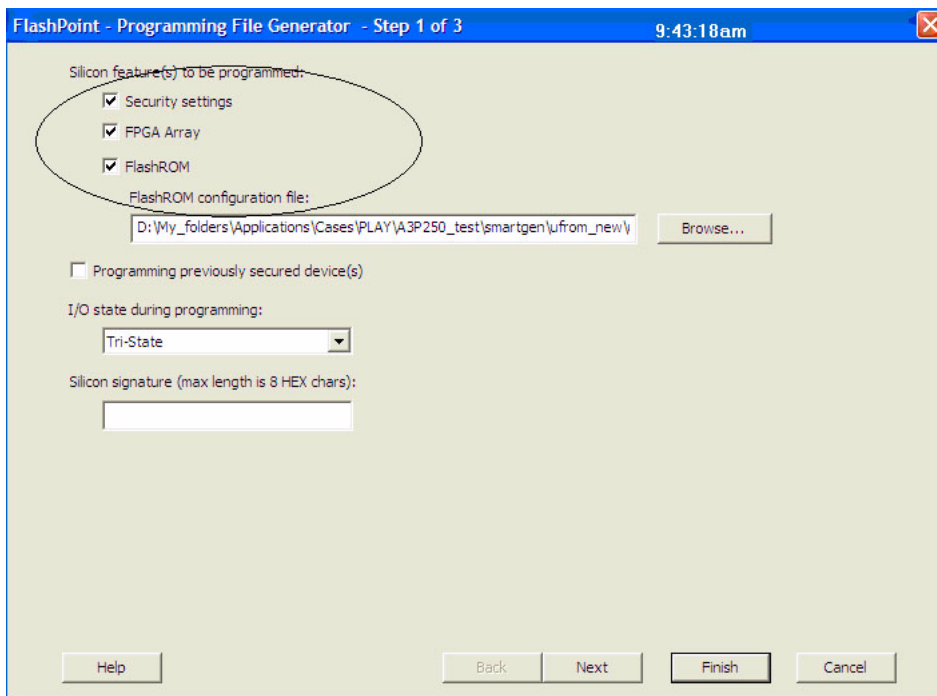
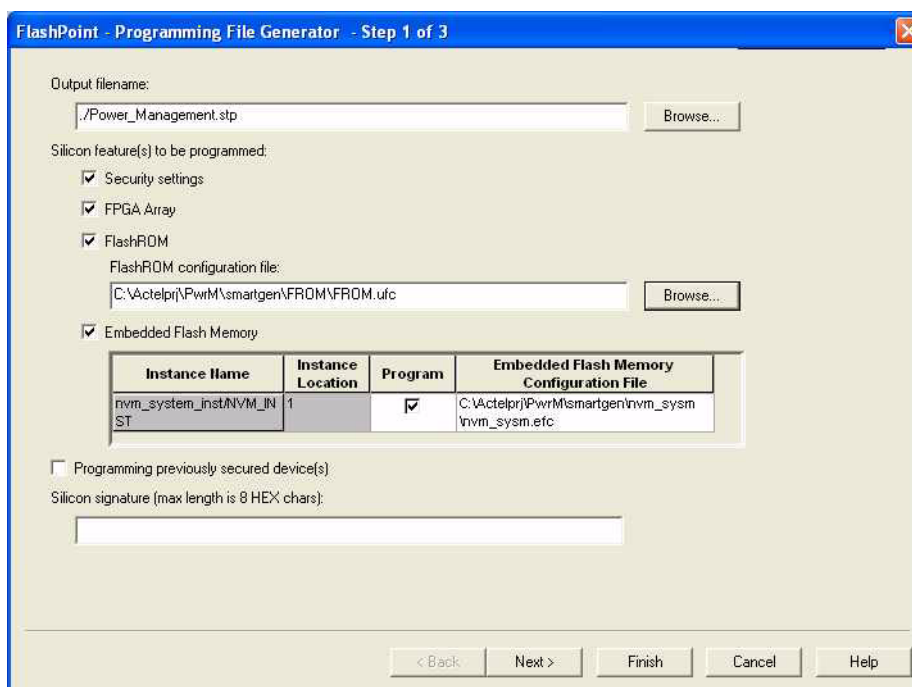
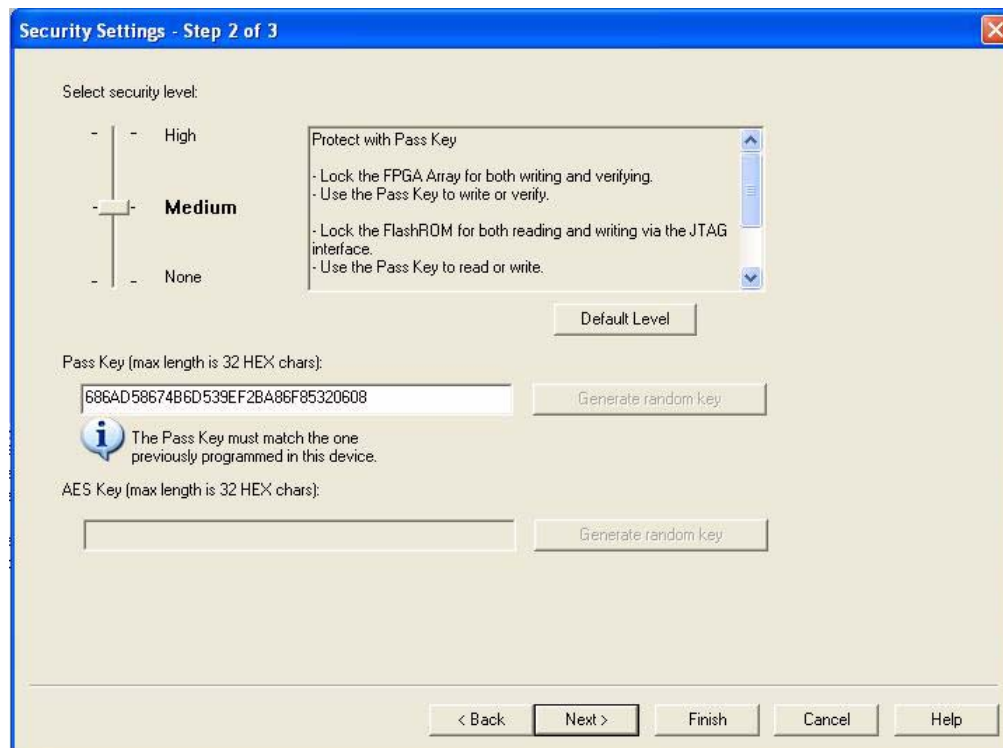

Figure 15-10 • All Silicon Features Selected for IGLOO and ProASIC3 Devices
Figure 15-11 • All Silicon Features Selected for Fusion
Figure 15-19 • FlashLock Pass Key, Previously Programmed Devices
1. Select the **Silicon features to be programmed** (Security Settings, FPGA Array, FlashROM, Flash Memory Blocks), as shown in Figure 15-10 on page 338 and Figure 15-11 on page 338. Click **Next**.
Figure 15-10 on page 338 and Figure 15-11 on page 338 show the option **Programming previously secured device(s)**, which the user should select before proceeding. Upon going to the next step, the user will be notified that the same FlashLock Pass Key needs to be entered, as shown in Figure 15-19 on page 346.
It is important to note that when the security settings need to be updated, the user also needs to select the **Security settings** check box in Step 1, as shown in Figure 15-10 on page 338 and Figure 15-11 on page 338, to modify the security settings. The user must consider the following: